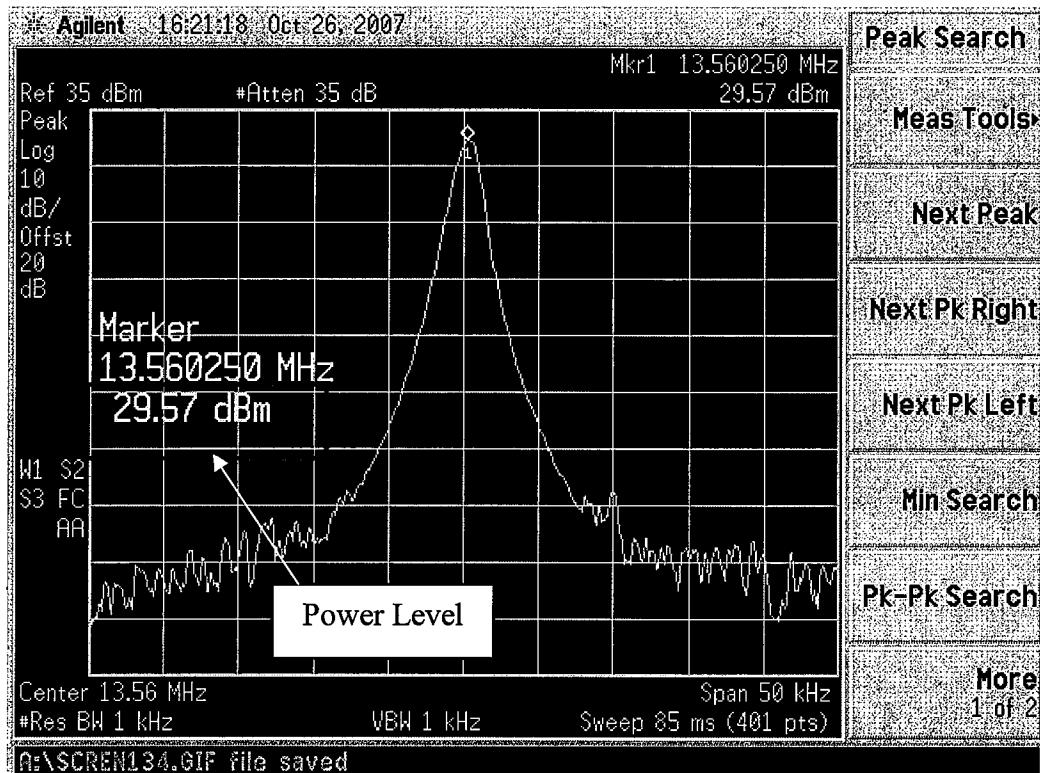

Figure 15
9.8.7 Move the DigiPot Adjustment up or down until you reach a level of 29.5 dBm (+/- .2 dB) as shown in Figure 15. Note in order for the “Fine Adjustment” value to be applied the Adjust button must be clicked for each new setting. **The lower the Fine Adjustment value the higher the RF amplitude.**
- 9.8.13 Return Reader Antenna Output Power Level to 1 Watt see 9.8.2 thru 9.8.4. The spectrum analyzer screen should look like Figure 15.